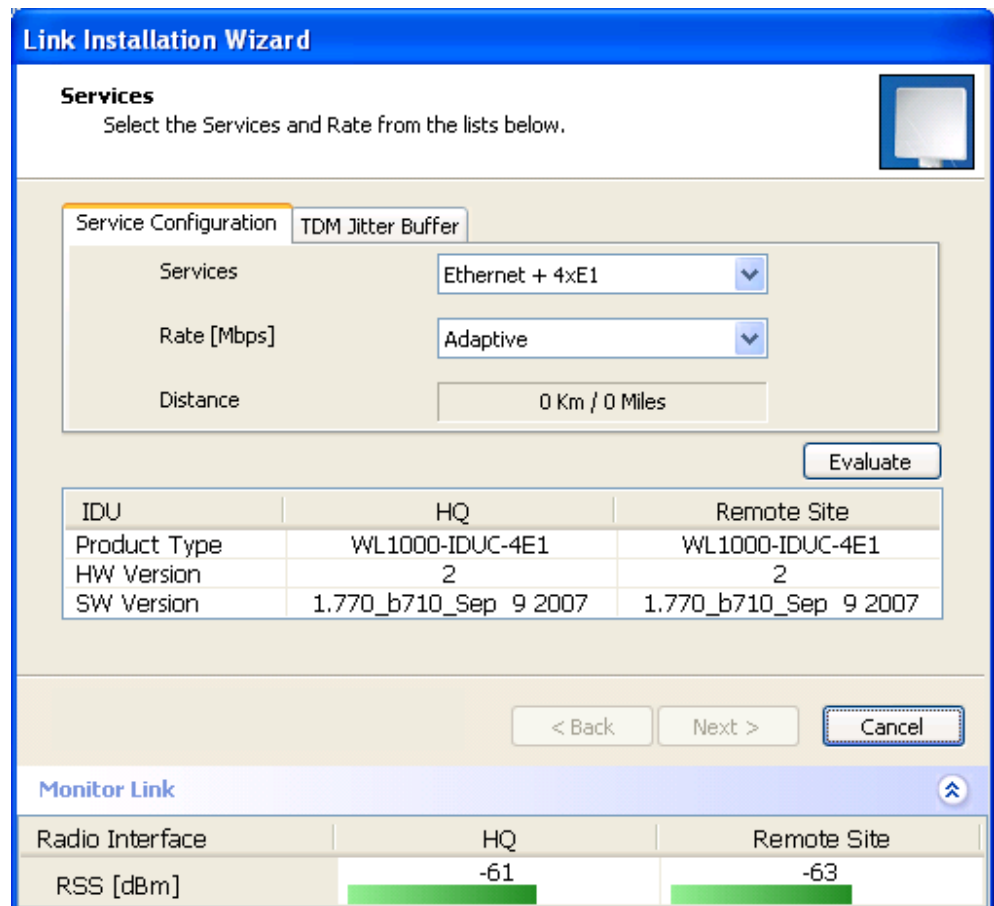

Figure 5-6: Services Dialog Box, E1/T1 Interface
- Ethernet plus a number of E1/T1 channels (see Figure 5-6).